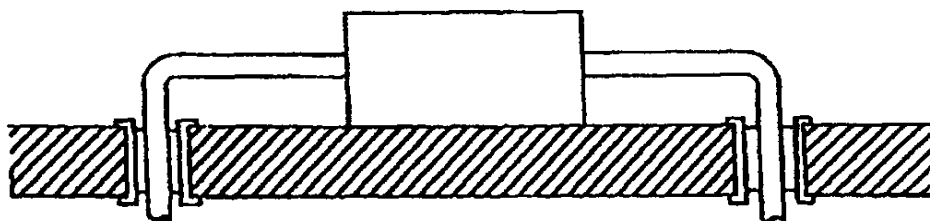

Figure 8-6. Horizontal Mount
- a. **Horizontal Mount.** Parts intended for horizontal mounting shall be parallel to, and in contact with, the mounting surface (see Figure 8-6), or as specified in the engineering documentation. Slight angularity is permissible. When parts will be bonded, slight spacing will be acceptable.